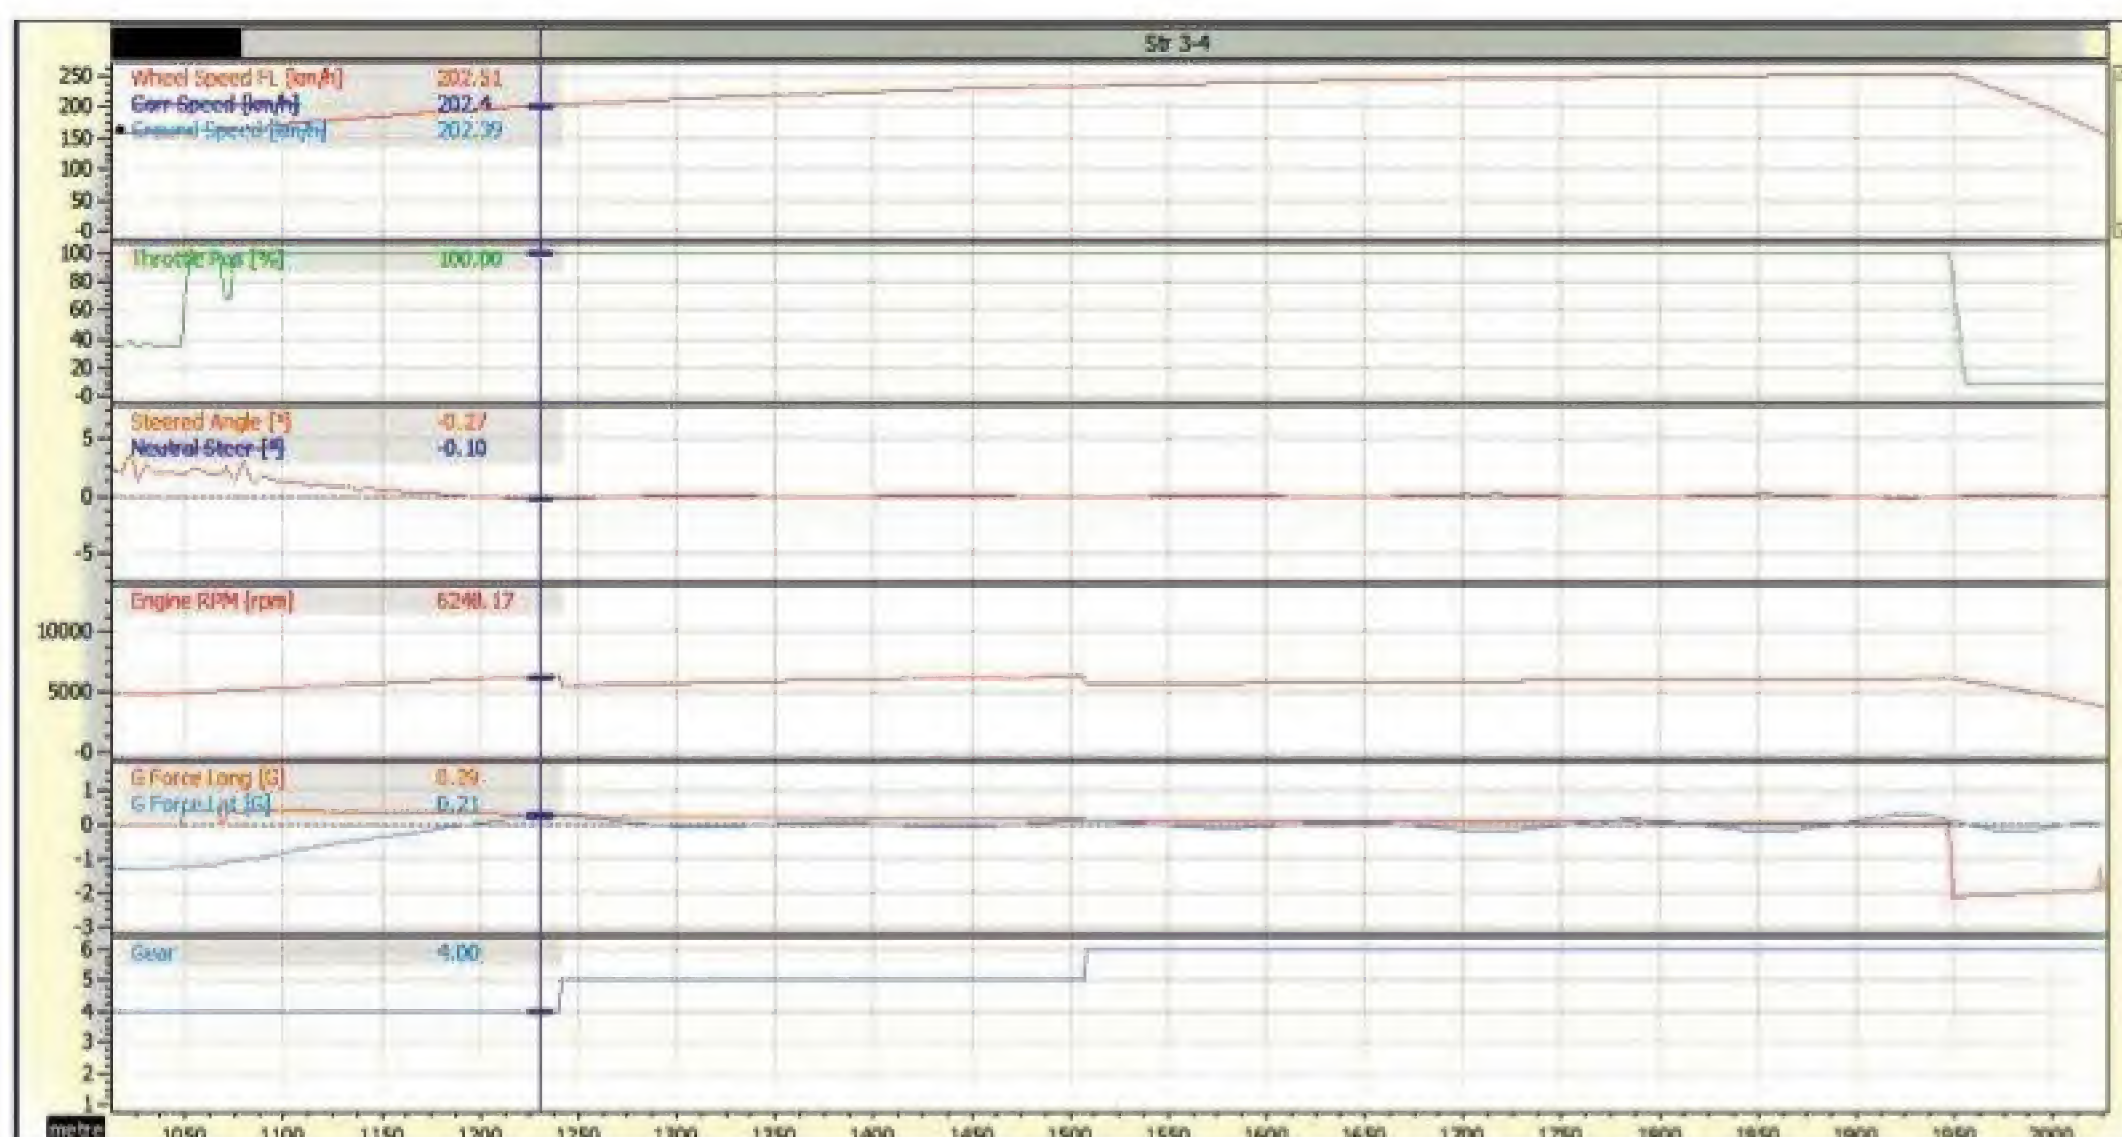

Figure 2: required channels for engine curve calculation
- The first step is to export all the channels listed in figure 2 to a csv (comma-separated values) file. Concentrate on straight data only.